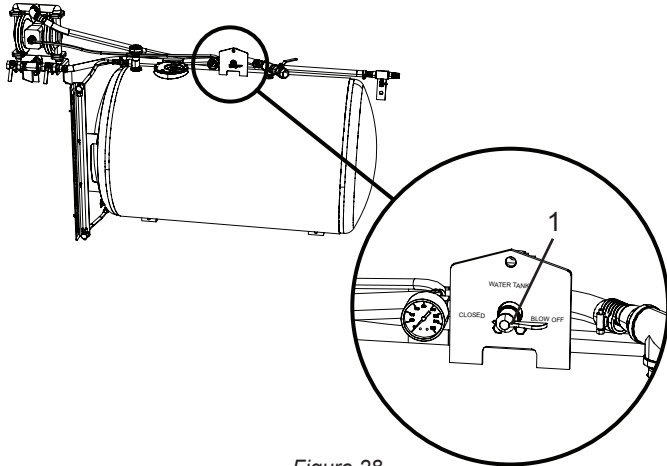

Figure 28
4. Turn the air pressure control valve (Figure 28, Item 1) to the WATER TANK position to start the pump.
To stop the pump, turn the air pressure control valve (Figure 28, Item 1) to the CLOSED position.